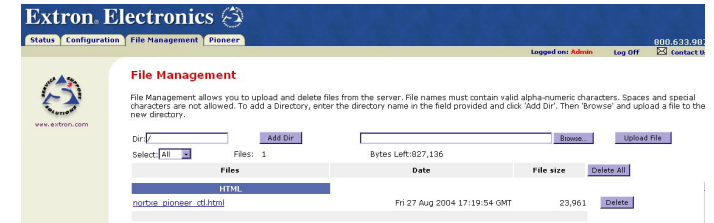

Figure 4-8 — Web server File Management screen
The File Management tab includes the File Management page (figure 4-8).
1. Select the File Management tab. The File Management screen (figure 4-8) is displayed.